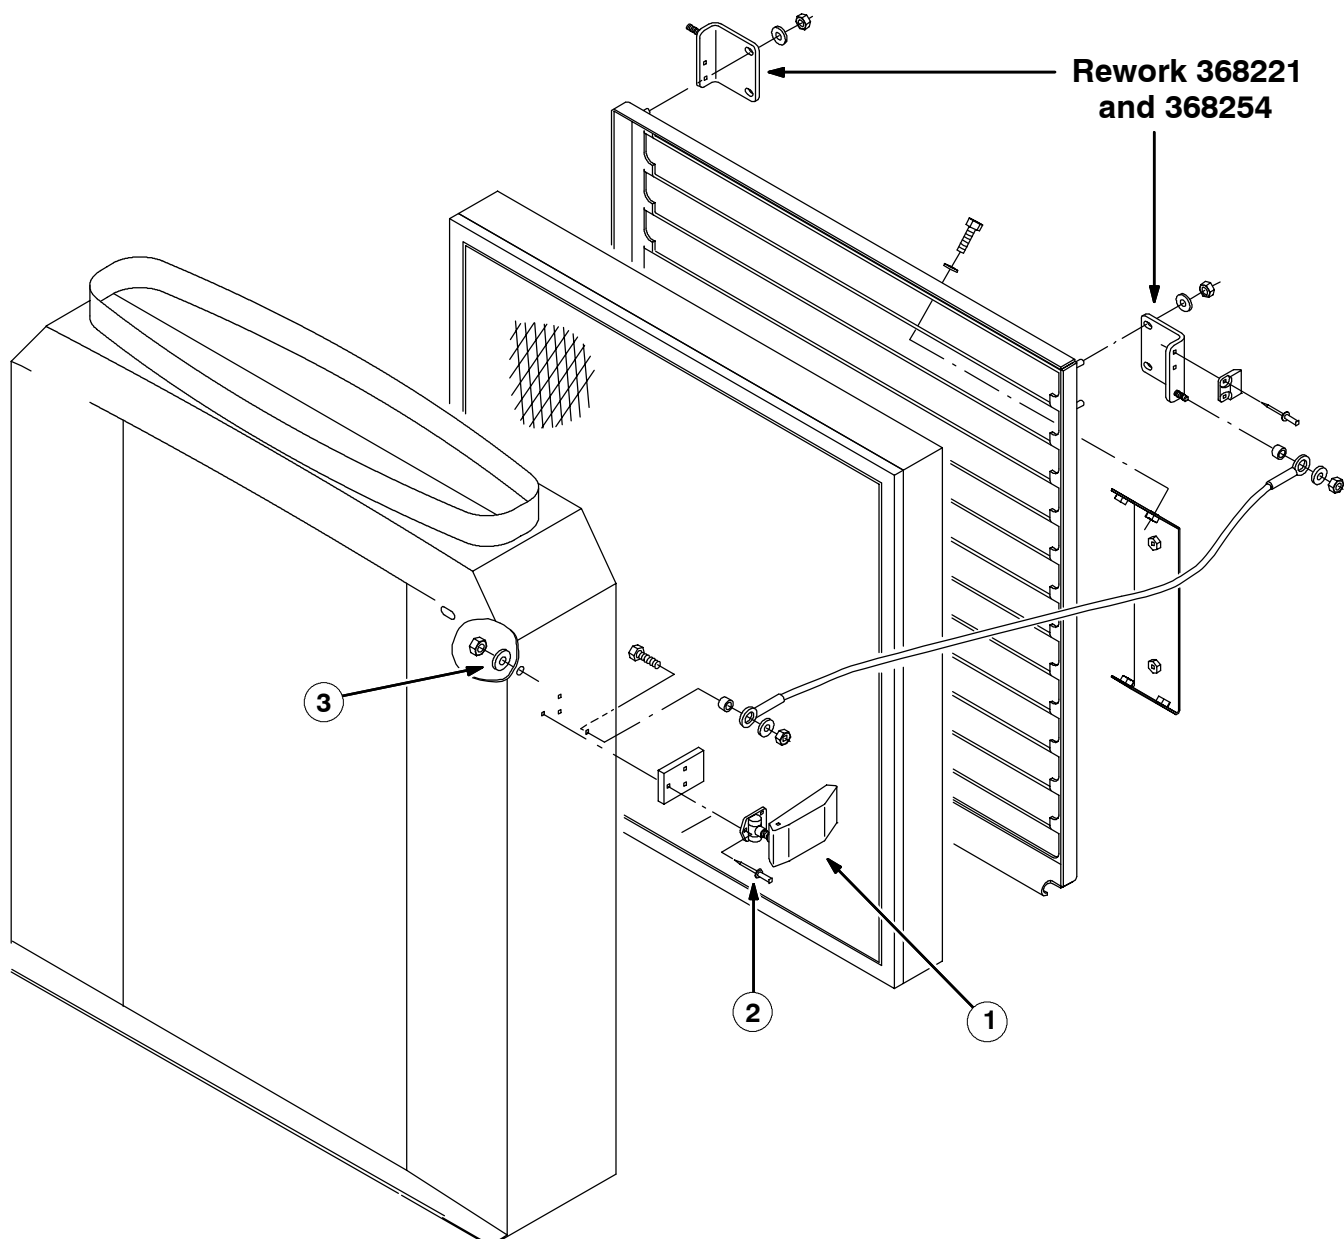

FIG. 1 - NEW FILTER LATCH INSTALLATION
(Refer to FIG. 1, 2 and 3)
3. Remove and set aside the filter door. Remove the left and right mounting brackets from the sides of the filter door. Set the mounting bracket hardware aside. Rework the mounting brackets according to the dimensions in the rework drawings. (Refer to FIG. 1, 2 and 3)
(Refer to FIG. 1)
7. Reinstall the filter door. Reconnect the cable ends to the reworked brackets with the set aside mounting hardware. (Refer to FIG. 1)